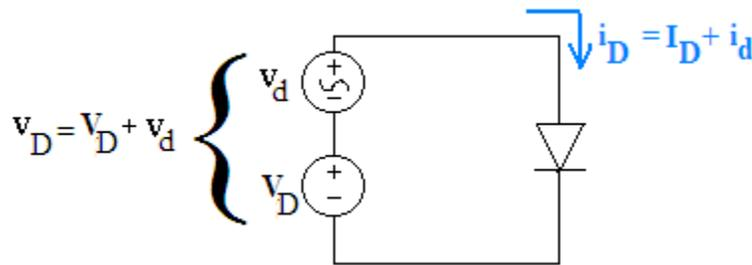

Figure 32: Small Signal Analysis
To understand small signal analysis, let's perform a conceptual experiment. We will attach a voltage source across a diode that is composed of a DC component and a small signal (AC) component (see Figure 32). Small signal analysis will allow us to determine the small signal current (i_d) that is caused by the small signal voltage (v_d). We use the following notation: